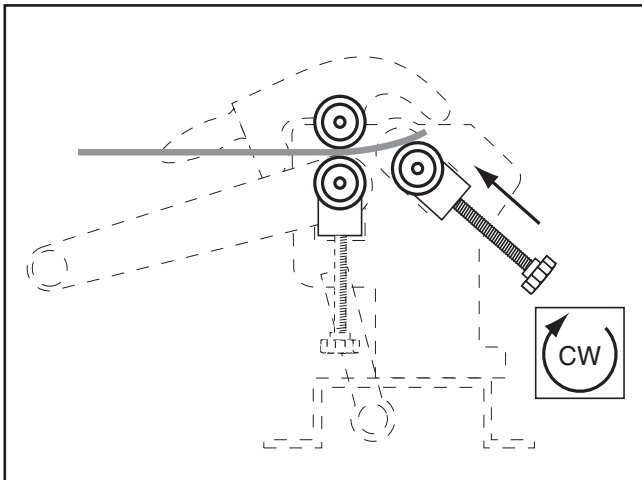

Figure 22. Setting the radius.
3. Turn the radius adjust knobs to lift the rear roller until the desired radius bend is reached (**Figure 22**). Make sure to turn the knobs equal amounts so the rear roller is always parallel with the other rollers. Failure to do so will create a larger radius on one end than the other, resulting in a cone shape.